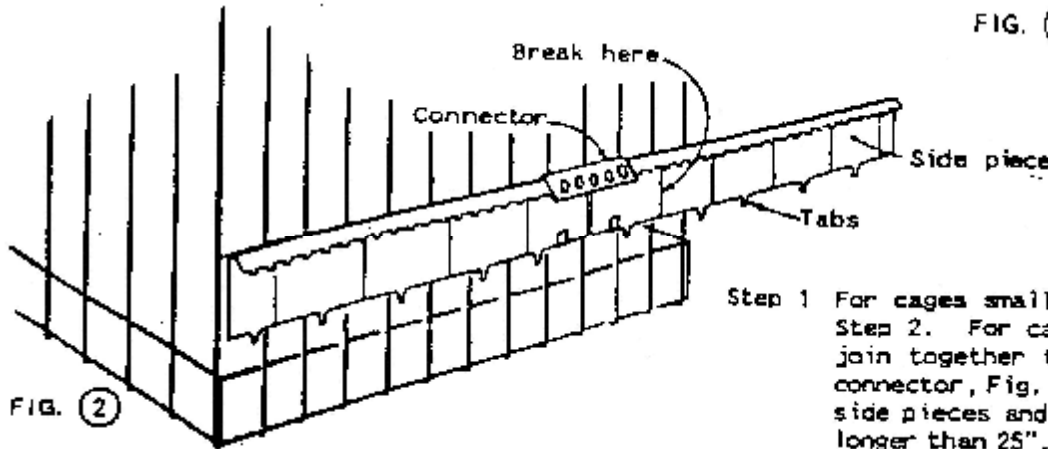
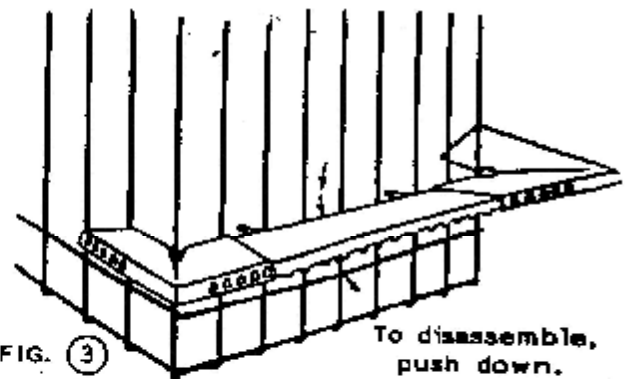
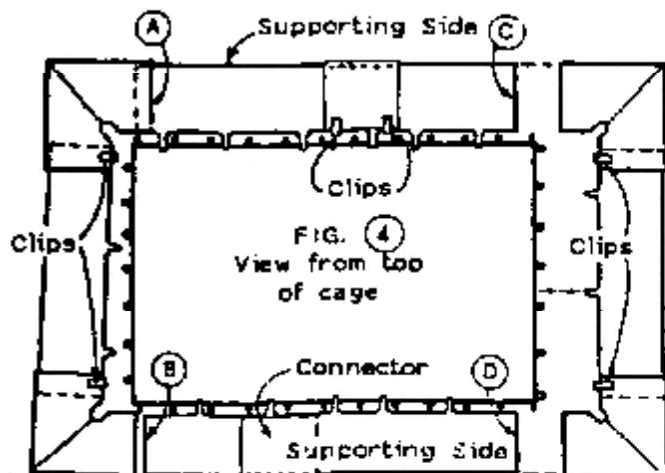
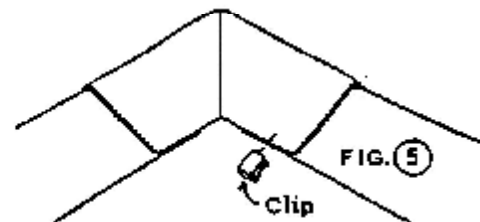

FIG. 2
FIG. 3
FIG. 4
FIG. 5
Step 1 For cages smaller than 25"x25", skip to Step 2. For cages larger than 25"x25", join together two side pieces with connector, Fig. 2. Repeat with additional side pieces and connectors for all sides longer than 25". Push clips onto overlapping points. See Fig. 3 and Fig. 5.
Step 2 Position side piece against cage, Fig. 2, and locate groove nearest to corner. With top smooth side facing you, grip side with two hands and thumbs at either side of groove, on opposite side from groove. Bend towards you, then back and forth to break off. Repeat with 4 sides.
Step 3 Assemble 4 corners and 4 side pieces by pushing sides into corners 2 notches only and push clips onto overlapping points, see Fig. 3 and Fig. 5.
Step 4 Place assembled skirt down over cage, if a tab interferes with a wire, break tab off by bending down. Push side pieces into corners to fit snugly around cage and rest on base edge or horizontal wire, Fig. 4.
Note! To disassemble, remove clips and push bottom of side down away from corner, see Fig. 3.
Step 1 For cages smaller than 25"x25", skip to Step 2. For cages larger than 25"x25", join together two side pieces with one connector, Fig. 2. Repeat with additional side pieces and connectors for all sides longer than 25". Push clips onto overlapping points, see Fig. 4 and Fig. 5.
Step 4 Assemble 1 short side and 2 corners to fit cage end snugly, Fig. 3, and push clips on overlapping points, see Fig. 4 and Fig. 5, make another assembly for opposite end.
Step 5 Position long side piece at angle against long cage side, Fig. 4 at point "A", with other hand push corner assembly, from Step 4, into side piece 2 or 3 notches. At opposite side, position remaining side at angle against cage with other hand, join corner at point "B" and push together snugly; now push corner and side at point "A" together snugly and push clips on overlapping points, Fig. 4. Repeat with remaining assembly at points "C" and "D".
Step 2 Position side piece against cage, Fig. 2, and locate groove nearest corner. With top smooth side facing you, grip with two hands and thumbs at either side of groove on opposite side from groove. Bend towards you, then back and forth to break off. Repeat with 4 sides.
Note: To disassemble, remove clips and push bottom of side down away from corner, see Fig. 3.